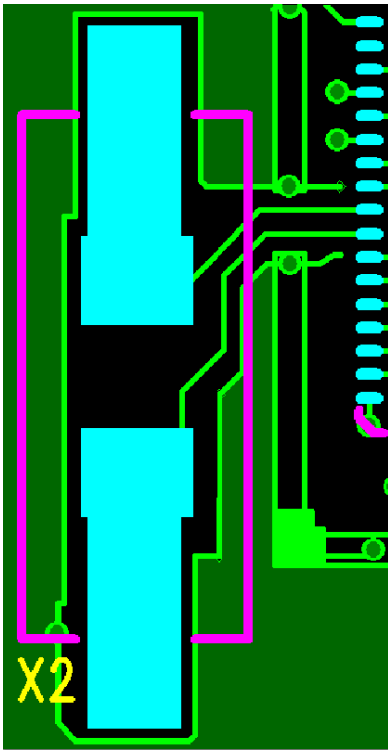

Figure 13. PCB Top Metal Layer Shielding of Crystal Signals
**OSC\_32K\_XOUT:** Output Pin for the 32kHz Oscillator. Connect to 32kHz quartz crystal. The OSC\_32K\_XOUT and OSC\_32K\_XIN traces must be well-shielded from other signals, both on the same PCB layer and lower PCB layers, as shown in Figure 13.
**OSC\_32K\_XIN:** Input for the 32kHz Oscillator. Connect to 32kHz quartz crystal. The OSC\_32K\_XOUT and OSC\_32K\_XIN traces must be well-shielded from other signals, both on the same PCB layer and lower PCB layers, as shown in Figure 13.
**OSC\_20M\_XOUT:** Output for the 20MHz Oscillator. Connect only to a supported 20MHz quartz crystal. The OSC\_20M\_XOUT and OSC\_20M\_XIN traces must be well-shielded from other signals, as shown in Figure 13. See the Eterna Integration Guide for supported crystals.
**OSC\_20M\_XIN:** Input for the 20MHz Oscillator. Connect only to a supported 20MHz quartz crystal. The OSC\_20M\_XOUT and OSC\_20M\_XIN traces must be well-shielded from other signals, both on the same PCB layer and lower PCB layers, as shown in Figure 13.